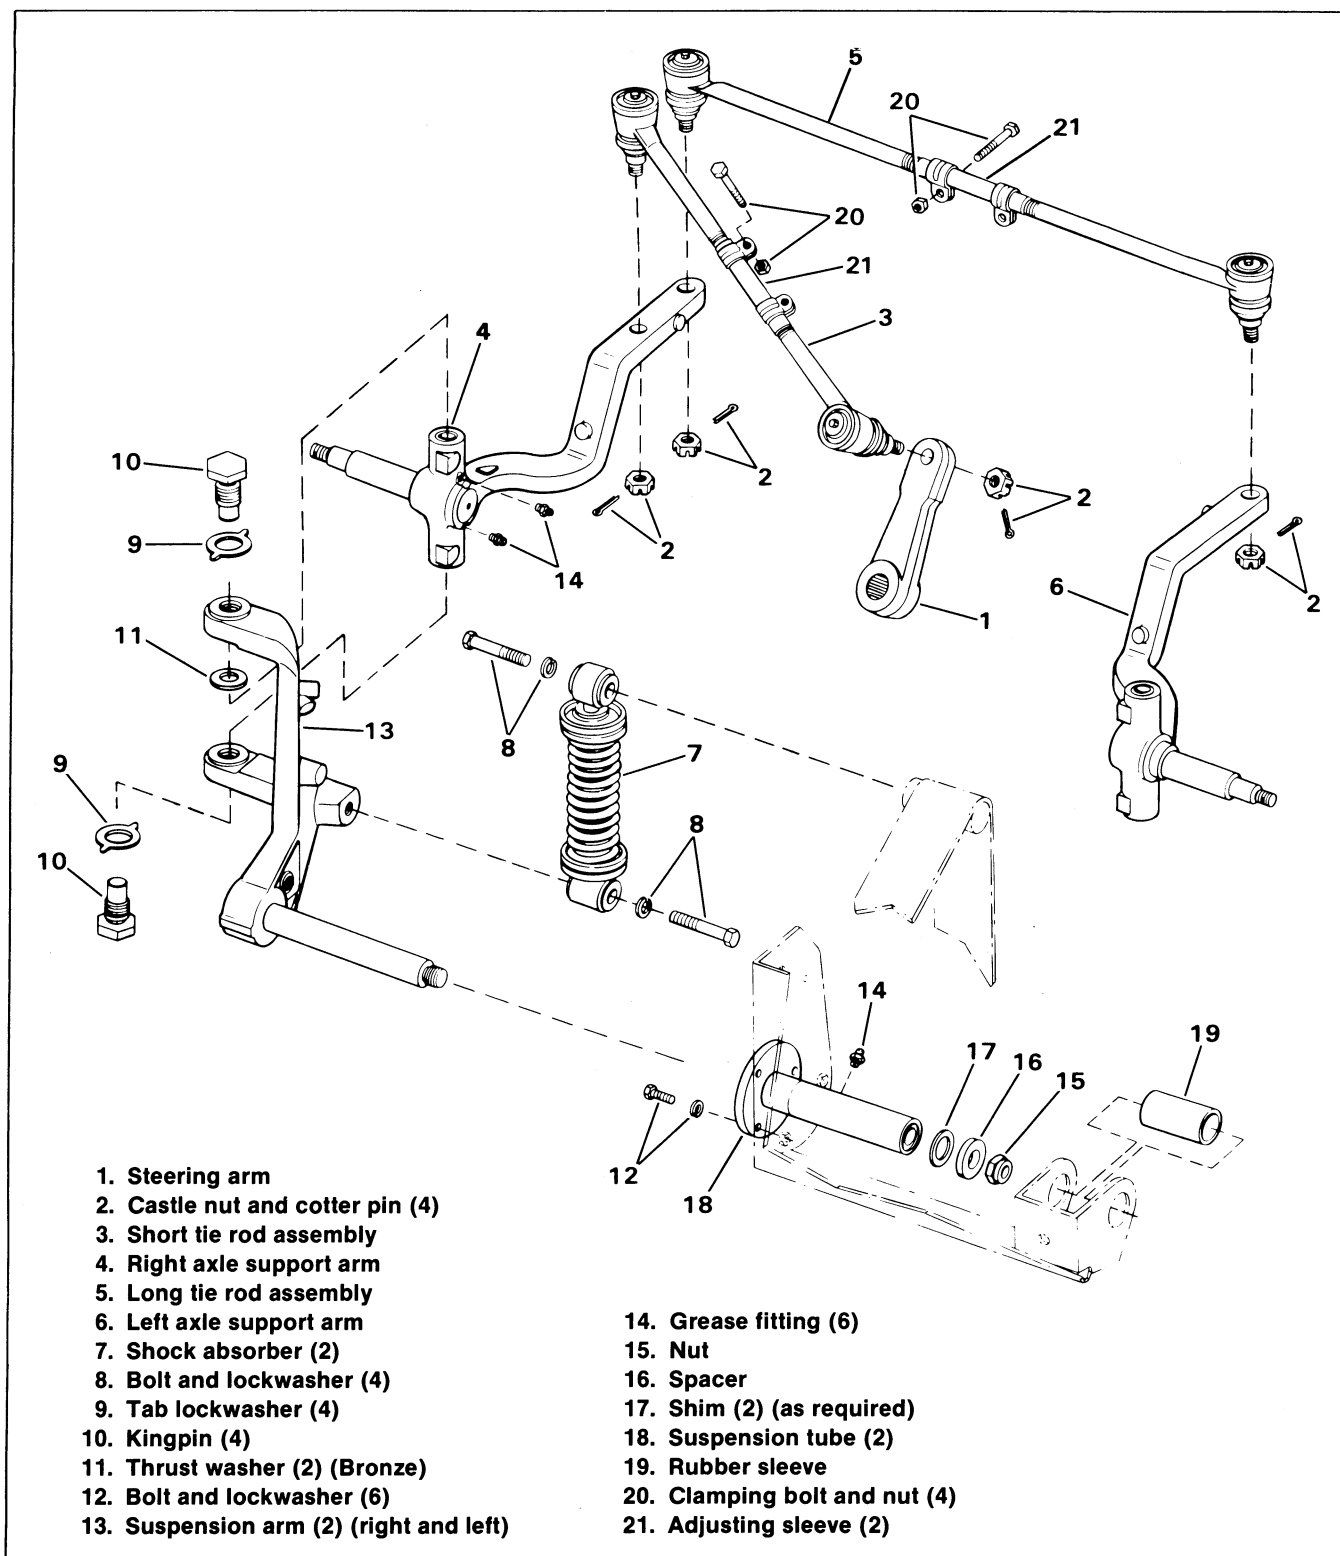

Figure 2-23. Front Suspension, 4 Wheel Car — Exploded View
REMOVAL (Figure 2-23)
INSTALLATION (Figure 2-23)
2. Remove shock absorber from car by removing the two mounting bolts and washers (8, Figure 2-23).